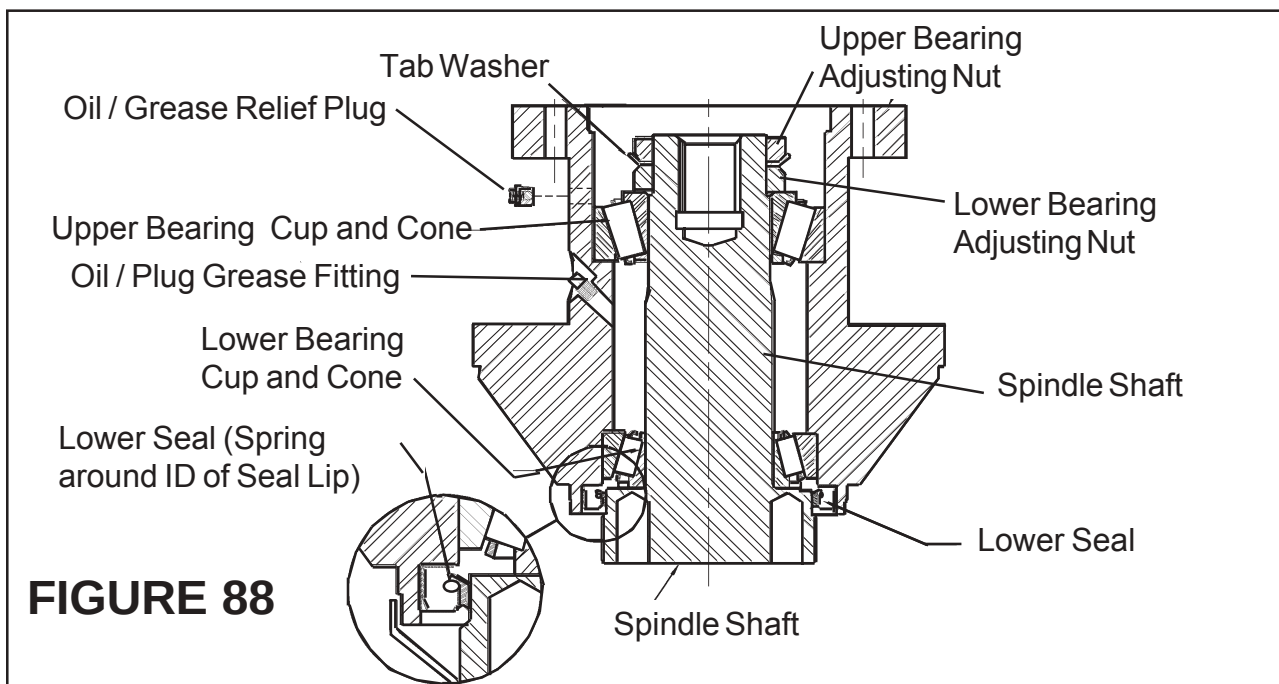

FIGURE 88
1. Spindle Re-Assembly, (See Figure 88) Make sure Housing is Clean and in Good Shape.